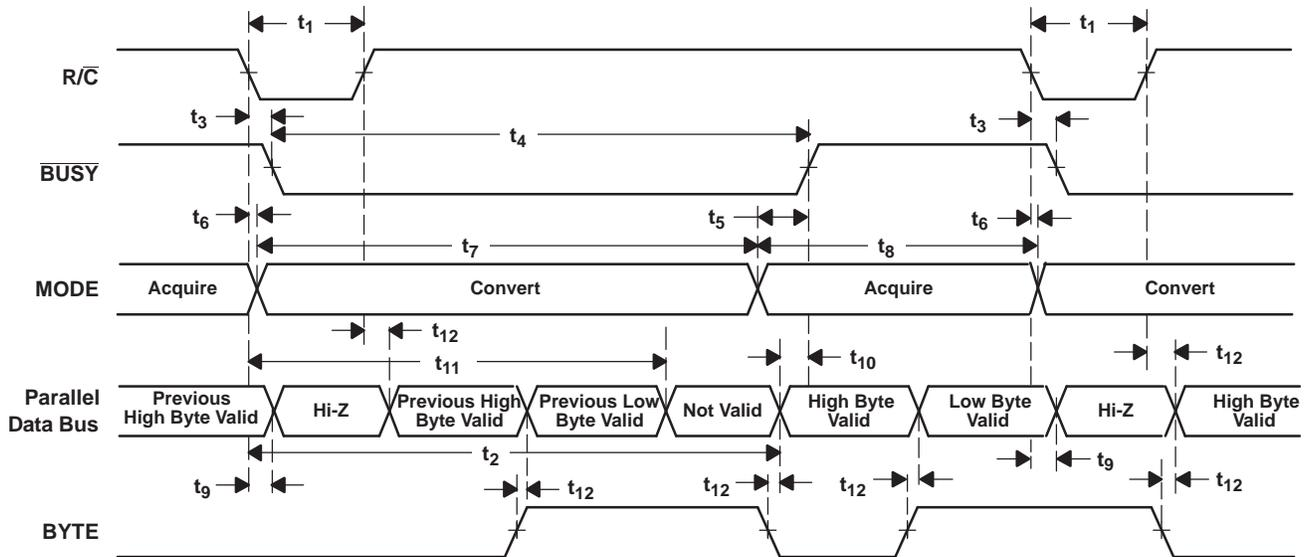
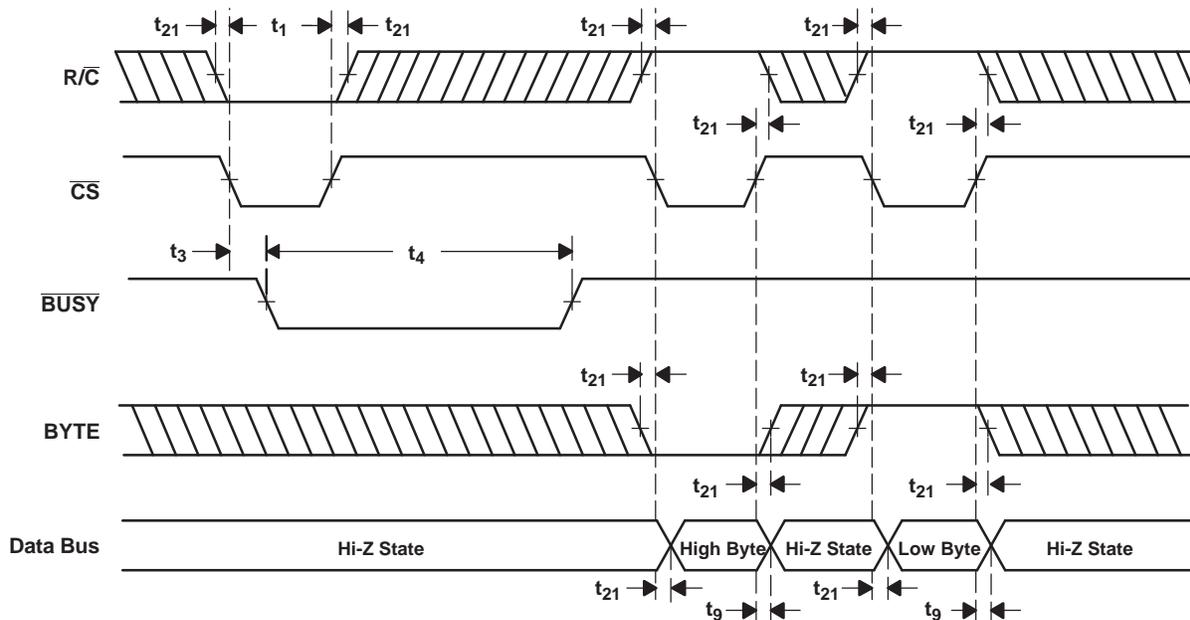

Figure 30. Conversion Timing With Parallel Output ($\overline{\text{CS}}$ and $\overline{\text{DATACLK}}$ Tied Low, $\overline{\text{EXT/INT}}$ Tied High)
Figure 31. $\overline{\text{CS}}$ to Control Conversion and Read Timing With Parallel Outputs
The ADS8517 begins tracking the input signal at the end of the conversion. Allowing 5 μs between convert commands assures accurate acquisition of a new signal. Refer to Table 2 and Table 3 for a summary of $\overline{\text{CS}}$, $\overline{\text{R}/\overline{\text{C}}}$, and $\overline{\text{BUSY}}$ states, and Figure 30 through Figure 36 for timing diagrams.
(1) See Figure 30 and Figure 31 for constraints on data valid from conversion $N-1$.
After conversion *N* is completed and the output registers have been updated, $\overline{\text{BUSY}}$ (pin 24) goes high. Valid data from conversion *N* are available on D7-D0 (pin 9-13 and 15-17). $\overline{\text{BUSY}}$ going high can be used to latch the data. Refer to Table 5, Figure 30, and Figure 31 for timing specifications.
After conversion N has been initiated, valid data from conversion $N-1$ can be read and are valid up to $2.2\ \mu\text{s}$ after the start of conversion N . Do not attempt to read data beyond $2.2\ \mu\text{s}$ after the start of conversion N until $\overline{\text{BUSY}}$ (pin 24) goes high; doing so may result in reading invalid data. Refer to Table 5, Figure 30, and Figure 31 for timing constraints.